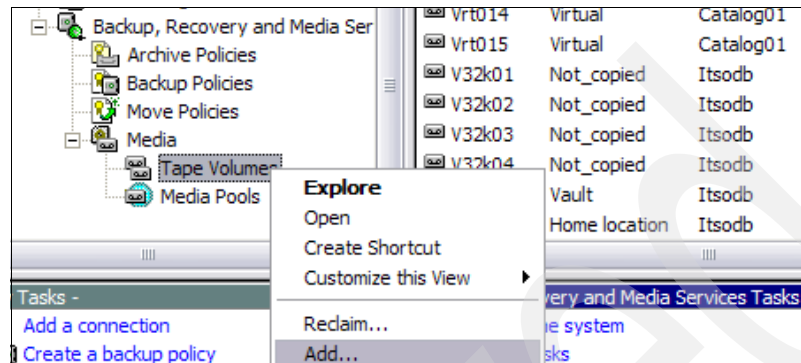

Figure 7-86 BRMS duplicating volumes, add physical media - add volumes
1. Under Backup, Recovery and Media Services, right-click **Tape Volumes** and select **Add volumes**, as shown in Figure 7-86.